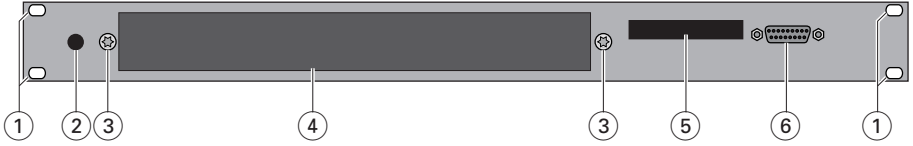
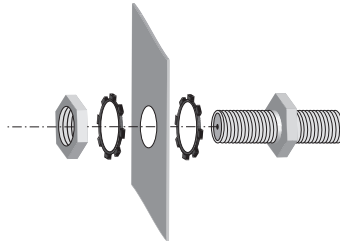
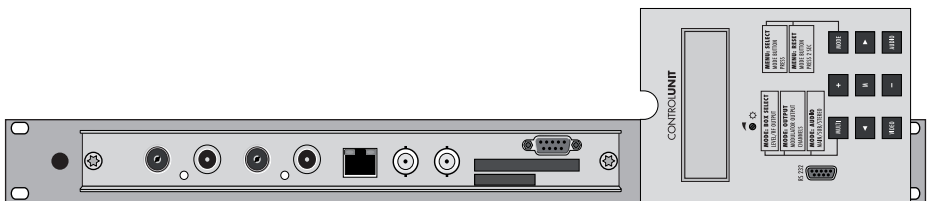

Fig. 1
Fig. 4
Fig. 13
- According to figure 4 insert a standard cable terminal in the opening provided in the front of the head-end station (Fig. 1 (2), page 7).
- Put the control unit according to figure 13 onto the 15-pin D-SUB socket ⑥ (Fig. 1, page 7).